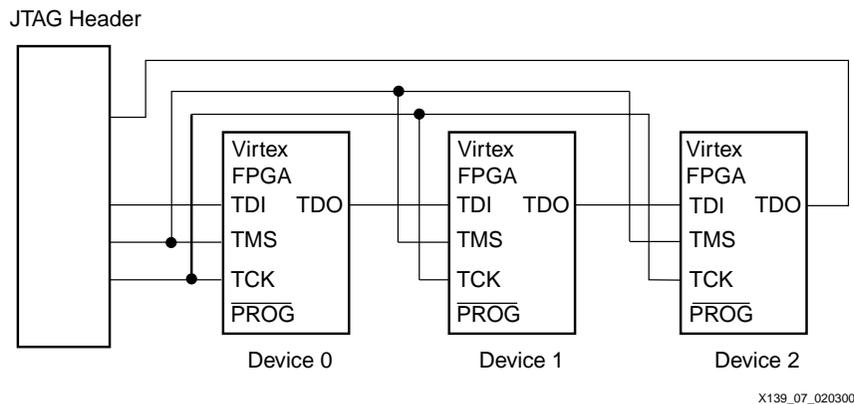

Figure 27: Boundary Scan Chain of Devices
Configuration flow for Virtex device configuration with JTAG is shown in Figure 27. The sections that follow describe how the Virtex device can be configured as a single device via boundary-scan or as part of a multiple-device scan chain.
3. For a chain of Virtex devices, it might be necessary to shift in leading zeros before the bitstream if the value of N is not equal to zero. Use the following equation to determine the number of leading zeros for each bitstream. M is the targeted device position in the chain. As shown in Figure 27, the first device position in the chain is zero. N is the number of zeros required. Mod is the modulus operation.
The third device, position 2 in Figure 27, requires 30 leading zeros.